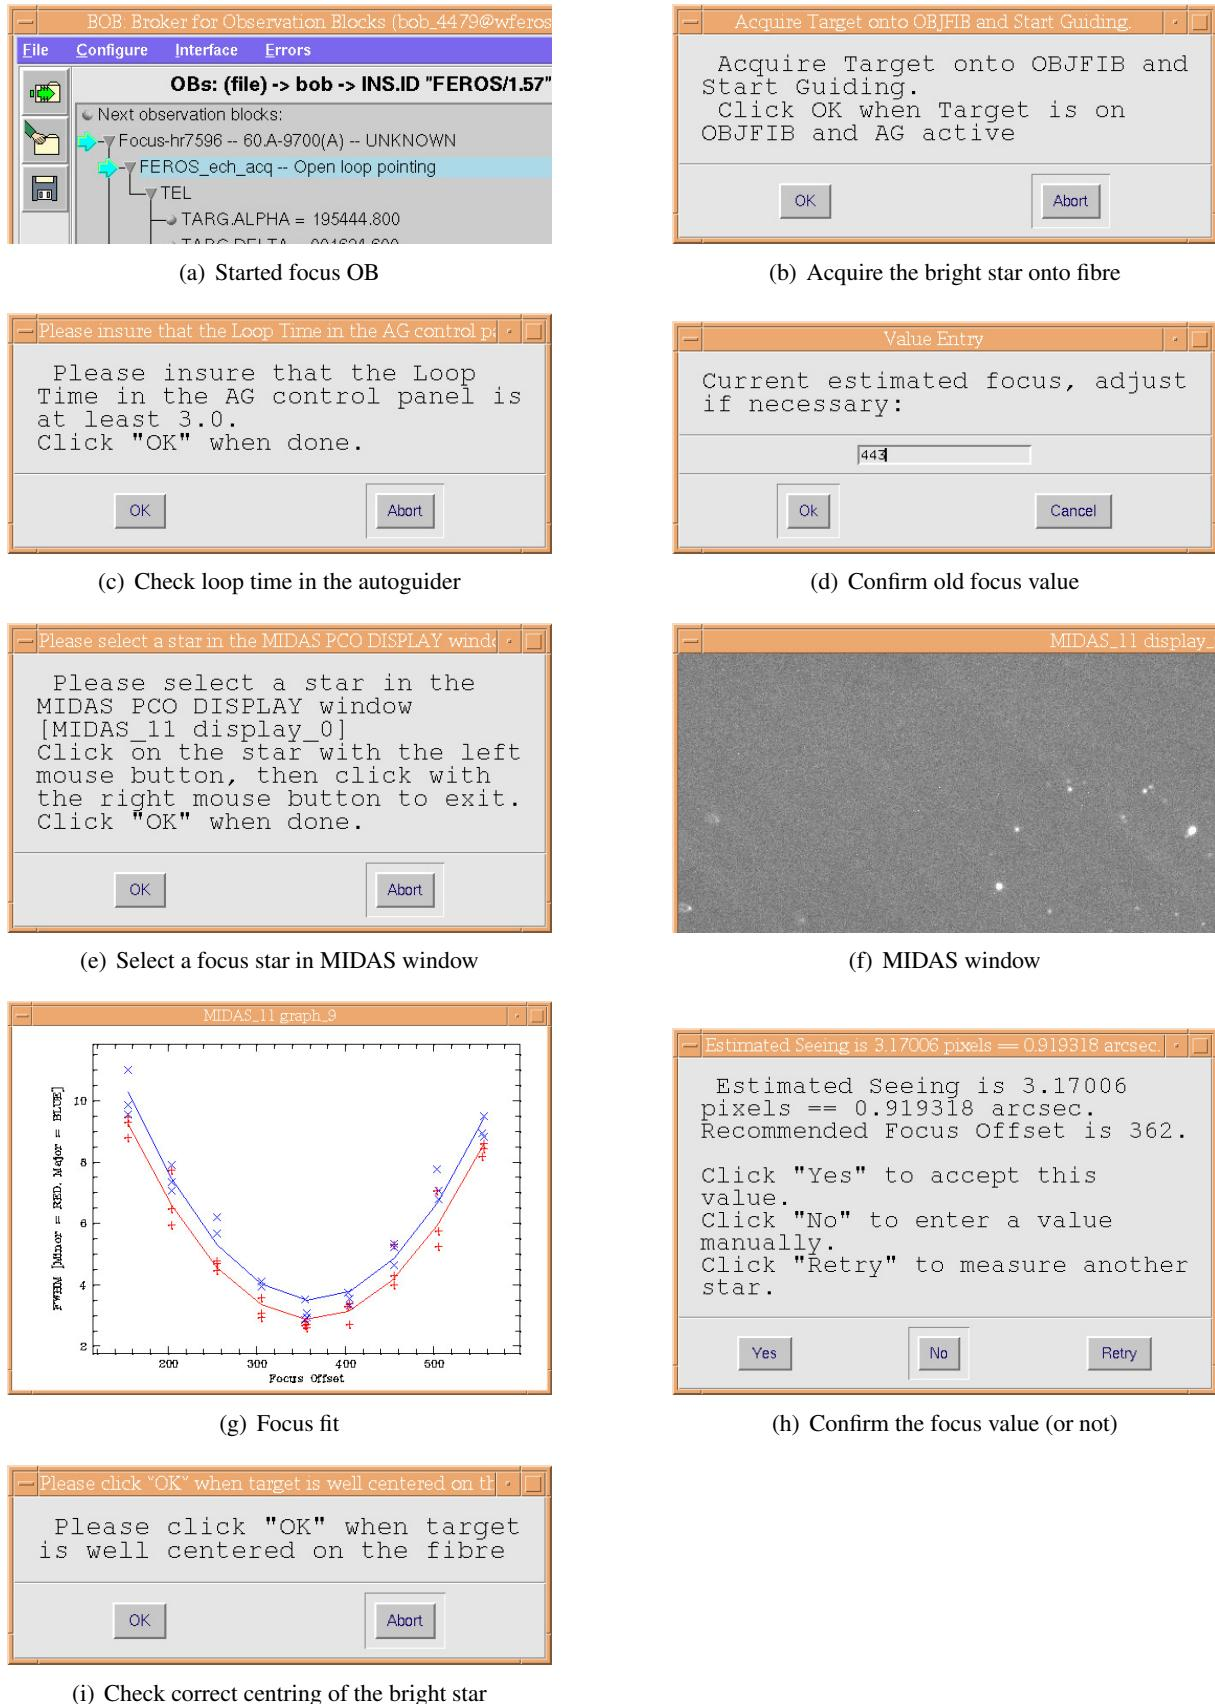

Figure 5.2: Focus with FEROS.
Focusing with **FEROS** takes about 5 minutes. It is summed up in Fig. 5.2, p. 56 and detailed in Procedure 5.7, p. 55.
- B5. Click **Start** (Fig. 5.2(a)).
- C4. Once guiding, click on popup asking for acquisition (Fig. 5.2(b)).
- D2. After about 30 s, click **OK** to pop-up asking to ensure loop time is more than 3 (Fig. 5.2(c))
- D4. Shortly after, a pop-up asks to select a star to **focus** on (Fig. 5.2(e))
- a. A **MIDAS** image appears, left and right-click on a non-saturated source (Fig. 5.2(f)).
- a. The white graph window should have points a two curves fitting them (Fig. 5.2(g))
- b. A pop-up appears asking action to take about focus fit (Fig. 5.2(h))